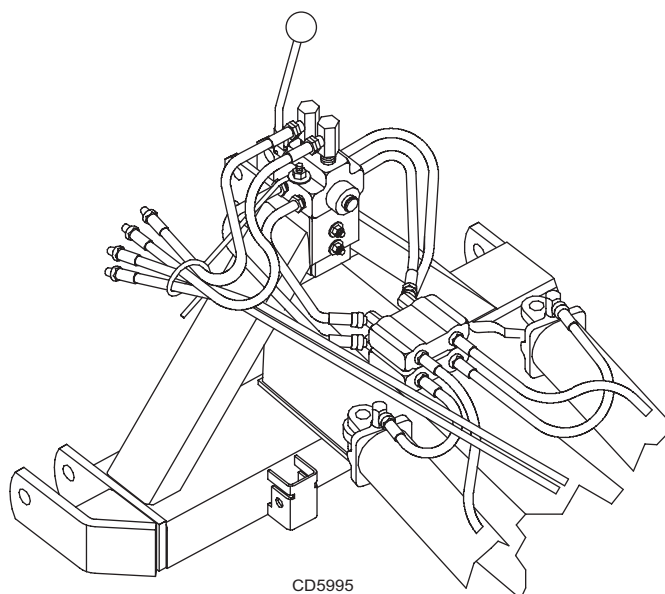

Figure 29. Selector Valve Hose Routing
10. Route hoses as shown in Figure 29.